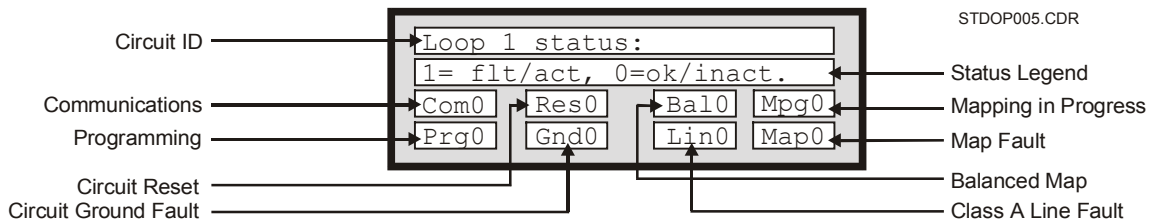

Figure 2-6: Loop status screen
3. Press Enter until you see the loop 1 status screen (Figure 2-6).